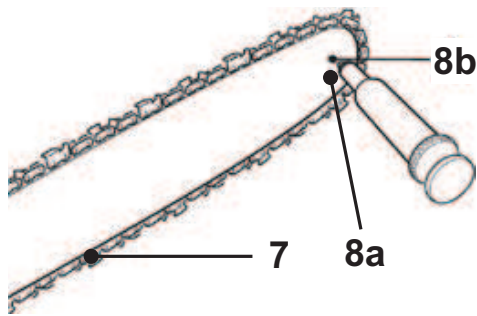

Fig. 43
2. Using a disposable lube gun, insert the needle nose into the lubrication hole **(8a)** and inject grease until it appears at the outside edge of the sprocket (Fig. 43).